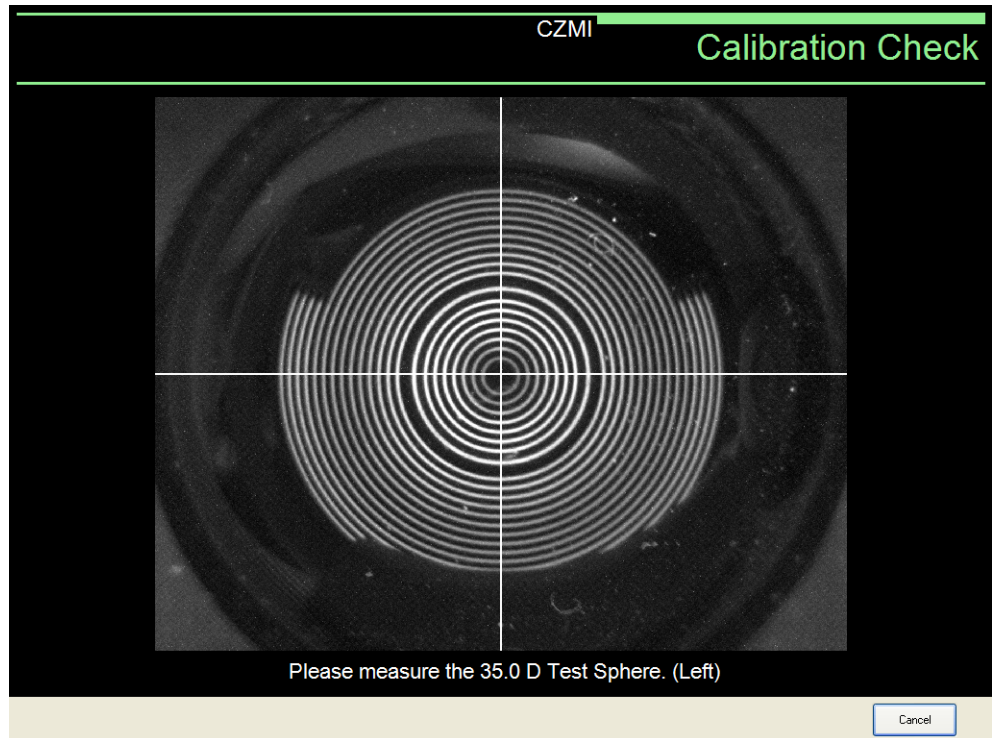

Figure H-4 Calibration Check—35.0 D Test Sphere.
3. For the first image, focus the projection head first on the largest sphere (35.0 D or 9.65 mm) at the left end of the calibration bar (Figure H-4).